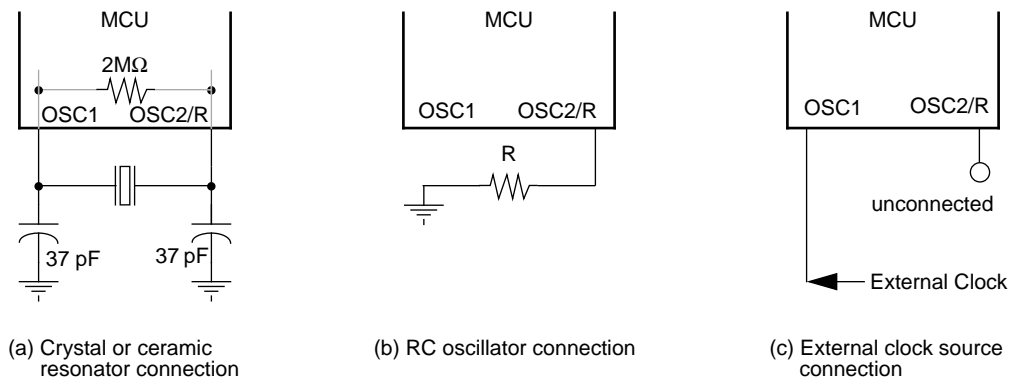

Figure 1-4. Oscillator Connections
1. A crystal as shown in **Figure 1-4(a)**
2. A ceramic resonator as shown in **Figure 1-4(a)**
3. An external resistor as shown in **Figure 1-4(b)**
4. An external clock signal as shown in **Figure 1-4(c)**
The circuit in **Figure 1-4(a)** shows a typical oscillator circuit for an AT-cut, parallel resonant crystal. The crystal manufacturer's recommendations should be followed, as the crystal parameters determine the external component values required to provide maximum stability and reliable start-up. The load capacitance values used in the oscillator circuit design should include all stray capacitances. The crystal and components should be mounted as close as possible to the pins for start-up stabilization and to minimize output distortion. An internal start-up resistor of approximately $2 M\Omega$ is provided between OSC1 and OSC2/R for the crystal type oscillator as a mask option.
In cost-sensitive applications, a ceramic resonator can be used in place of the crystal. The circuit in **Figure 1-4(a)** can be used for a ceramic resonator. The resonator manufacturer's recommendations should be followed, as the resonator parameters determine the external component values required for maximum stability and reliable starting. The load capacitance values used in the oscillator circuit design should include all stray capacitances. The ceramic resonator and components should be mounted as close as possible to the pins for start-up stabilization and to minimize output distortion. An internal start-up resistor of approximately 2 M Ω is provided between OSC1 and OSC2/R for the ceramic resonator type oscillator as a mask option.
The lowest cost oscillator is the RC oscillator configuration. With this option an external resistor is connected between OSC2/R pin and the V_{SS} pin as shown in **Figure 1-4(b)**. The typical operating frequency f_{OSC} is set at 4 MHz with the external R tied to V_{SS}. The internal start-up resistor of approximately 2 M Ω is not connected between OSC1 and OSC2/R for the mask option of the RC type oscillator.
An external clock from another CMOS-compatible device can be connected to the OSC1 input, with the OSC2/R input not connected, as shown in **Figure 1-4(c)**. This configuration is possible only when the crystal/ceramic resonator mask option is selected.